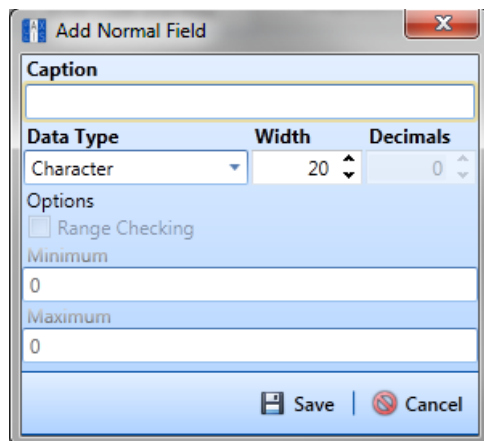

Figure 2-26. Add Normal Field
- 4 Click  **Normal** in the toolbar to open the *Add Normal Field* dialog box (Figure 2-26).